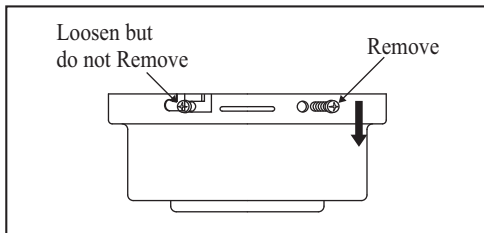

Figure 6
2. Remove the mounting bracket from the canopy by loosening the four screws on the top of the canopy. Remove the two non-slotted screws and loosen the slotted screws. (Figure 6)